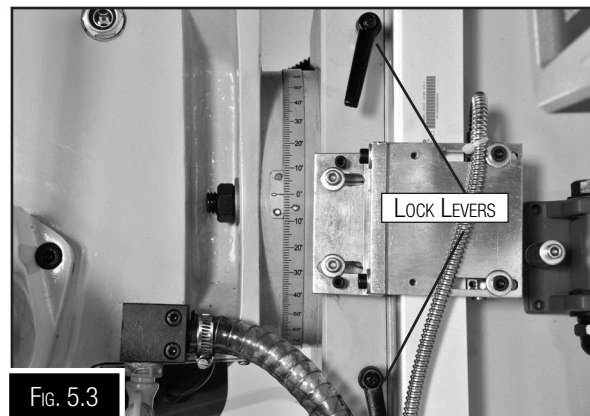

Fig. 5.3
1. Loosen both Z-axis lock levers shown in Fig.5.3 and remove the crank handle.